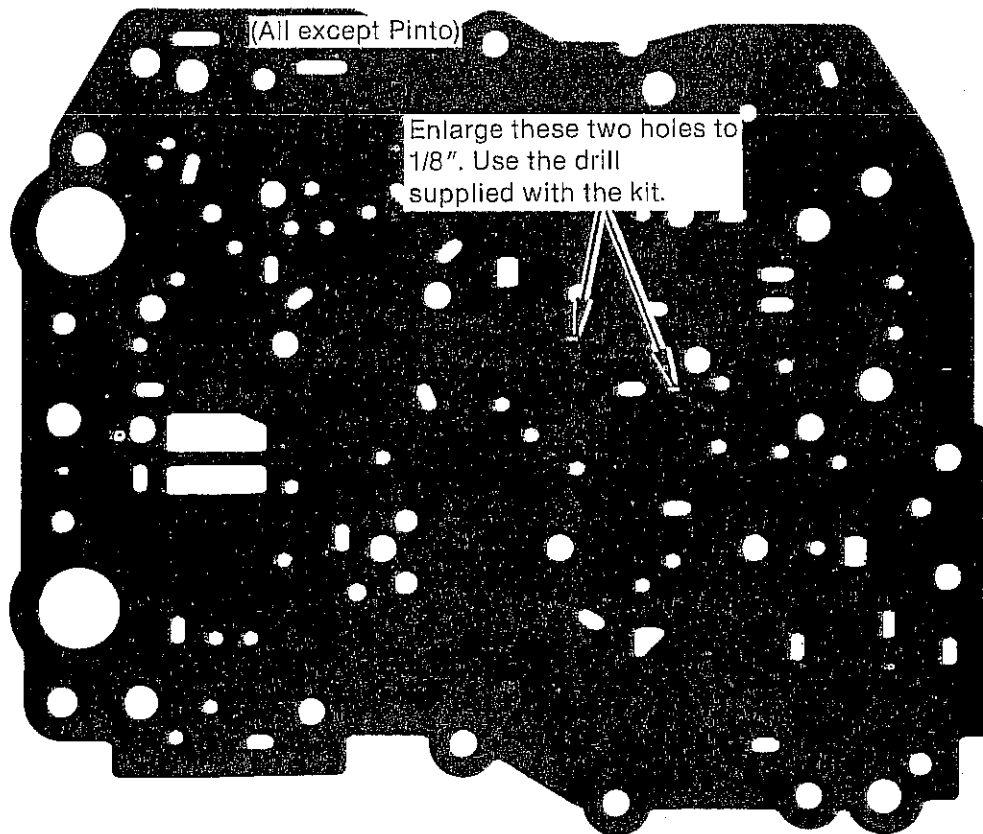

FIGURE 40
STEP 11. Scrape off any excess gasket material from the separator plate and transfer plate casting. Discard the rubber check balls in the transfer plate. Wash the transfer plate in solvent. See Fig. 40 or 40A for separator plate drilling.